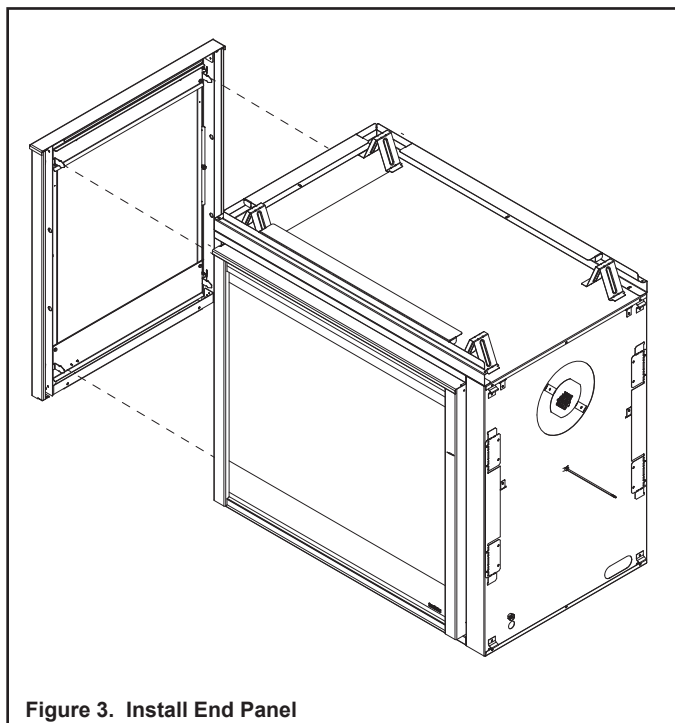

Figure 3. Install End Panel
5. Install End panel onto appliance by carefully aligning J-hooks on back of end panel with slots in vertical end component of appliance. See Figure 3. End panel will drop into location with J-hook seated in slot.